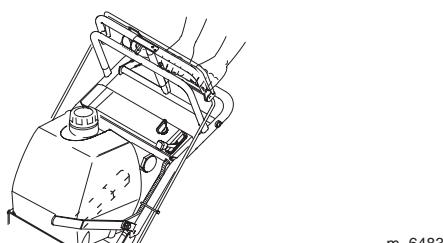

Figure 21
4. At the same time engage lower control bar and lift up on handle (Fig. 21 and 22).